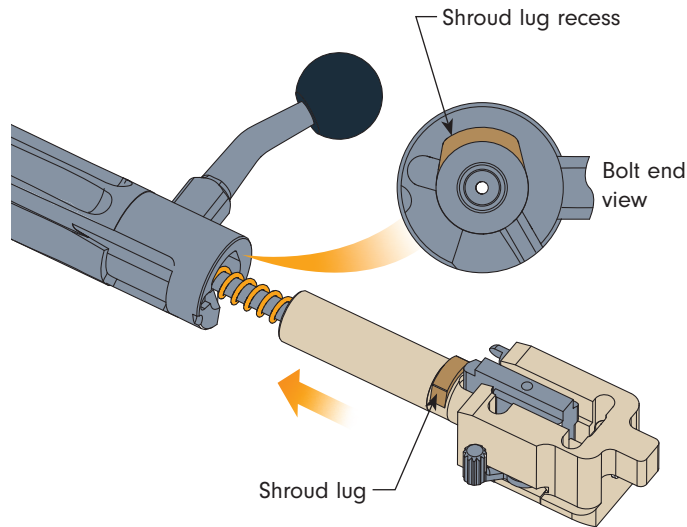

Fig 3-7
- To reassemble the bolt, insert the firing pin and shroud assembly into the bolt body, aligning the shroud retaining lug with the corresponding opening in the bolt body (see Fig 3-7).